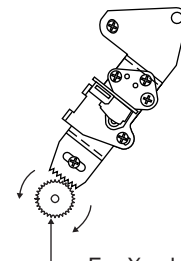

Figure 4-33.
Move the A/C head with the X value adjustment gear driver (JiGDRiVER-6) by the method shown in Figure 4-33, and adjust the A/C head so as to get the maximum envelope waveform. (Note: When the A/C head is adjusted, adjust so that the maximum envelop waveform is obtained nearest the position of initial setting made in Page 20.)
- ③ Move the A/C head with the X value adjustment gear driver by the method shown in Figure 4-33, and adjust the A/C head so as to get the maximum envelope waveform. (Note: At this time adjust so as to get the maximum envelope waveform nearest the A/C head position which has been set in case of X value rough adjustment as stated in Page 22, 3-②.)
- ④ Tighten finally the screws ① and ②. Be sure to tighten at first the screw ① and then the screw ②. Final tightening torque is 0.6N·m (If the screw ② is tightened first, the X value may deviate.)
- ⑤ Adjust the playback switching point (Refer to the electric adjustment method.)
- ⑥ Playback the self-picture-recorded tape, and check the flatness of envelope waveform and sound.